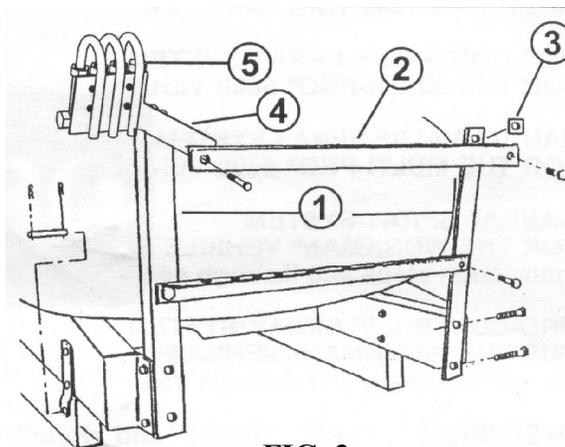

FIG. 3
1. Attach the two Boom Mounting Angles onto the rear of the Tank Saddle Extensions using (4) 1/2" x 1-1/4" hex hd. cap screws and lock nuts as shown in FIG. 3.
2. Assemble Flow Monitor and Flow Monitor Backing Plate onto the Flow Monitor Mount using (4) 1/4" x 2" hex hd. cap screws and lock nuts. FIG. 3.
3. Assemble the Upper Cross Support Angle, Flow Monitor Mount and Spacer onto the Boom Mount Assemblies with (2) 1/2" x 1-1/4 hex hd. cap screws and lock nuts as per FIG. 3.
4. Assemble the Lower Cross Support Angle onto the Boom Mounting Angles using (2) 1/2" x 1-1/4" hex hd. cap screws and lock nuts.